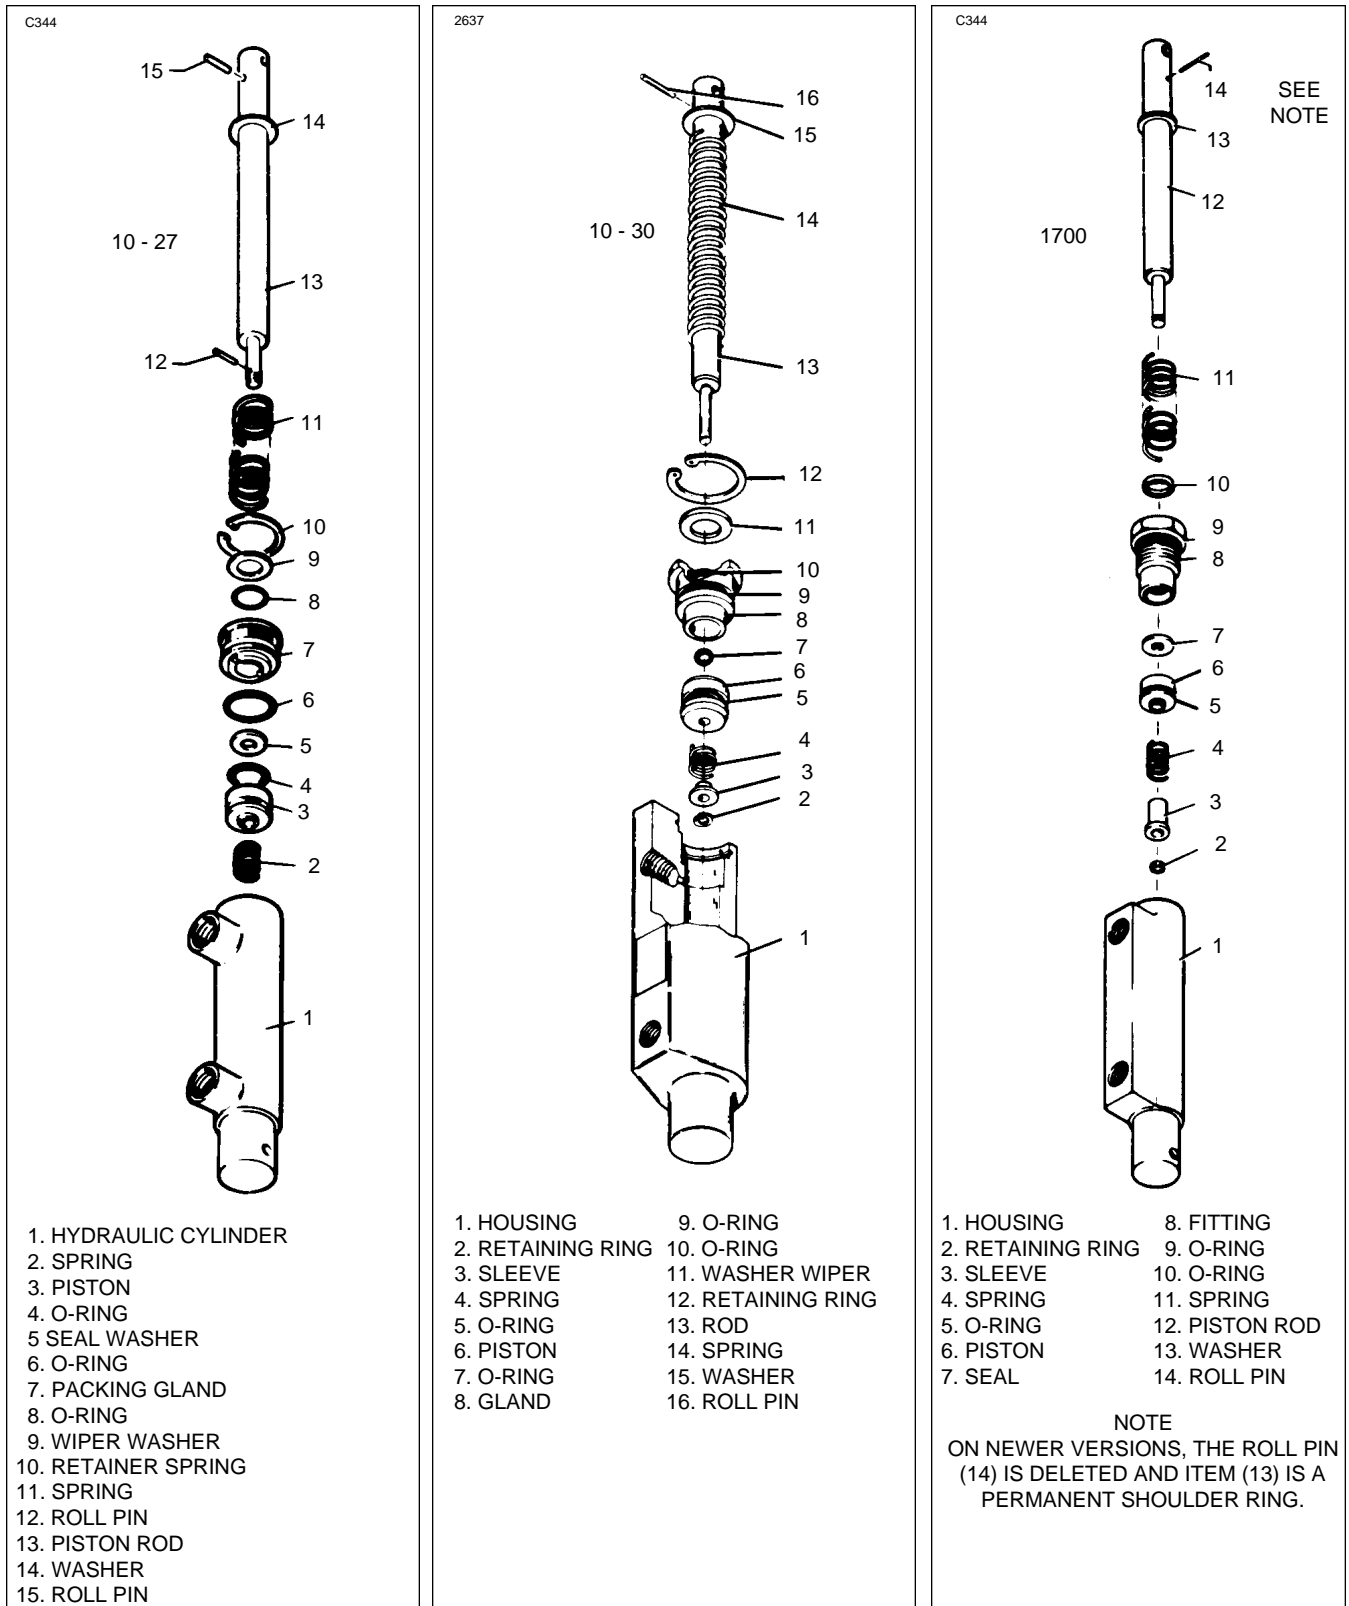

Figure 7-14 Brake Cylinder 10-27, 10-30, 17000 (Toe Brake)
- a. Cleveland cylinder number 10-27. (Refer to Figure 7-14.)
2. To disassemble the cylinder, first remove the piston rod assembly by removing the retaining ring (10) from the annular slot in the cylinder housing (1). Draw the piston rod assembly from the cylinder.
3. The piston rod assembly may be disassembled by first removing the roll pin (12) and then the piston assembly (3), seal (5), packing gland (7).
- b. Cleveland cylinder number 10-30. (Refer to Figure 7-14.)
2. To disassemble the cylinder, first remove the piston rod assembly by removing the retaining ring from the annular slot in the cylinder housing (1). Draw the piston rod assembly from the cylinder.
3. The piston rod assembly may be disassembled by first removing the retaining ring (2), sleeve (3) spring (4), and then the piston assembly, O-ring (5), and gland (8), and, if desired, the return spring (14).
- c. Gar-Kenyon cylinder number 17000. (Refer to Figure 7-14.)
7-44. ASSEMBLY OF BRAKE CYLINDER. (Refer to Figure 7-14.)
a. Cleveland cylinder number 10-27. (Refer to Figure 7-14.)
I. Install new O-rings on the inside and outside of the packing gland (7) and on the outside of the piston (3).
2. To assemble the piston rod assembly, install on the rod (13), in order, the roll pin (15), washer (14), spring (11), washer (9), packing gland (7), seal (5), piston assembly (3), spring (2), and roll pin (12).
3. Insert the piston rod assembly in the cylinder (1) and secure with the retaining ring (10).
b. Cleveland cylinder 10-30. (Refer to Figure 7-14.)
I. Install new O-rings on the inside and outside of the packing gland (8) and on the outside of the piston (6).
2. To assemble the piston rod assembly, install on the rod (13), in order, the roll pin (16), washer (15), spring (14), washer (11), packing gland (8) with O-rings, seal (5), piston assembly (6) with O-ring, spring (4), sleeve (3) and retaining ring (2).
3. Insert the piston rod assembly in the cylinder (1) and secure with the retaining ring, (12).
c. Gar-Kenyon cylinder number 17000. (Refer to Figure 7-14.)
1. Install new O-rings on the inside and outside of the fitting (8) and on the outside of the piston (6).
2. To assemble the piston rod assembly. install on the rod (12), in order. the roll pin (14), return spring retainer washer (13), return spring (11), fitting (8) with O-rings, seal (7), piston (6) with O-ring, spring (4) and sleeve (3). Secure these pieces with the retaining ring (2) on the end of the rod.
3. Insert the piston rod assembly in the cylinder (1) and secure fitting (8).